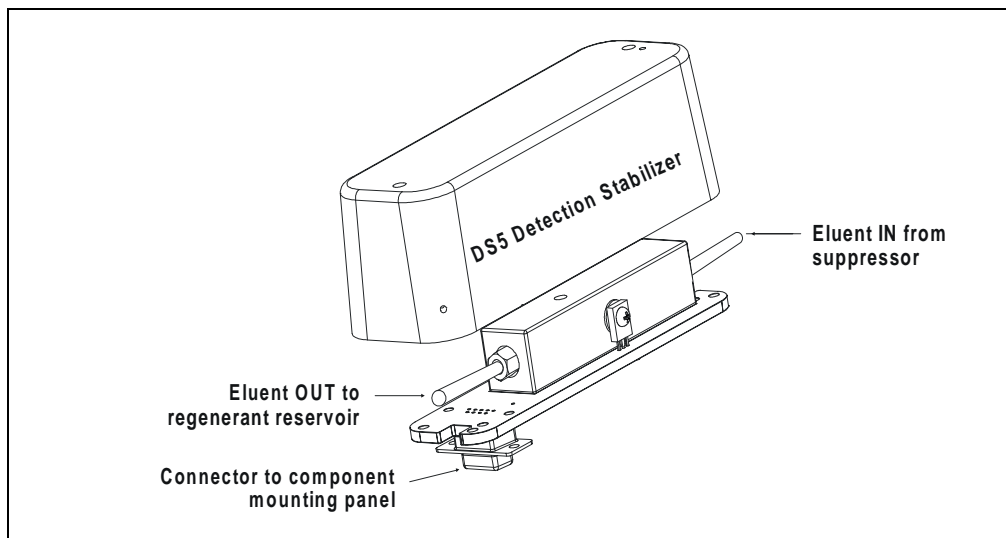

Figure 5-5. DS5 Detection Stabilizer Assembly
4. Disconnect the **Eluent Out** line connecting the DS5 to the regenerant reservoir (see Figure 5-5). Do not misplace the ferrule fittings at the end of the tubing.